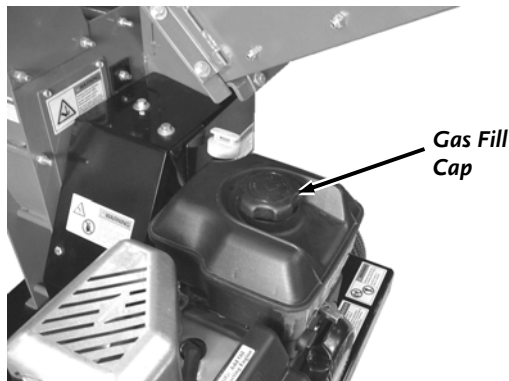

Figure 11
1. Remove the Gas Fill Cap and fill the Gas Tank with fresh, unleaded gas (with a minimum of 85 Octane) to approximately 1" to 1-1/2" below the top of the fill neck to allow for fuel expansion (**Figure 11**). Be careful not to overfill and reinstall the Gas Fill Cap before starting the engine. See your Engine Owner's Manual for more detailed information.